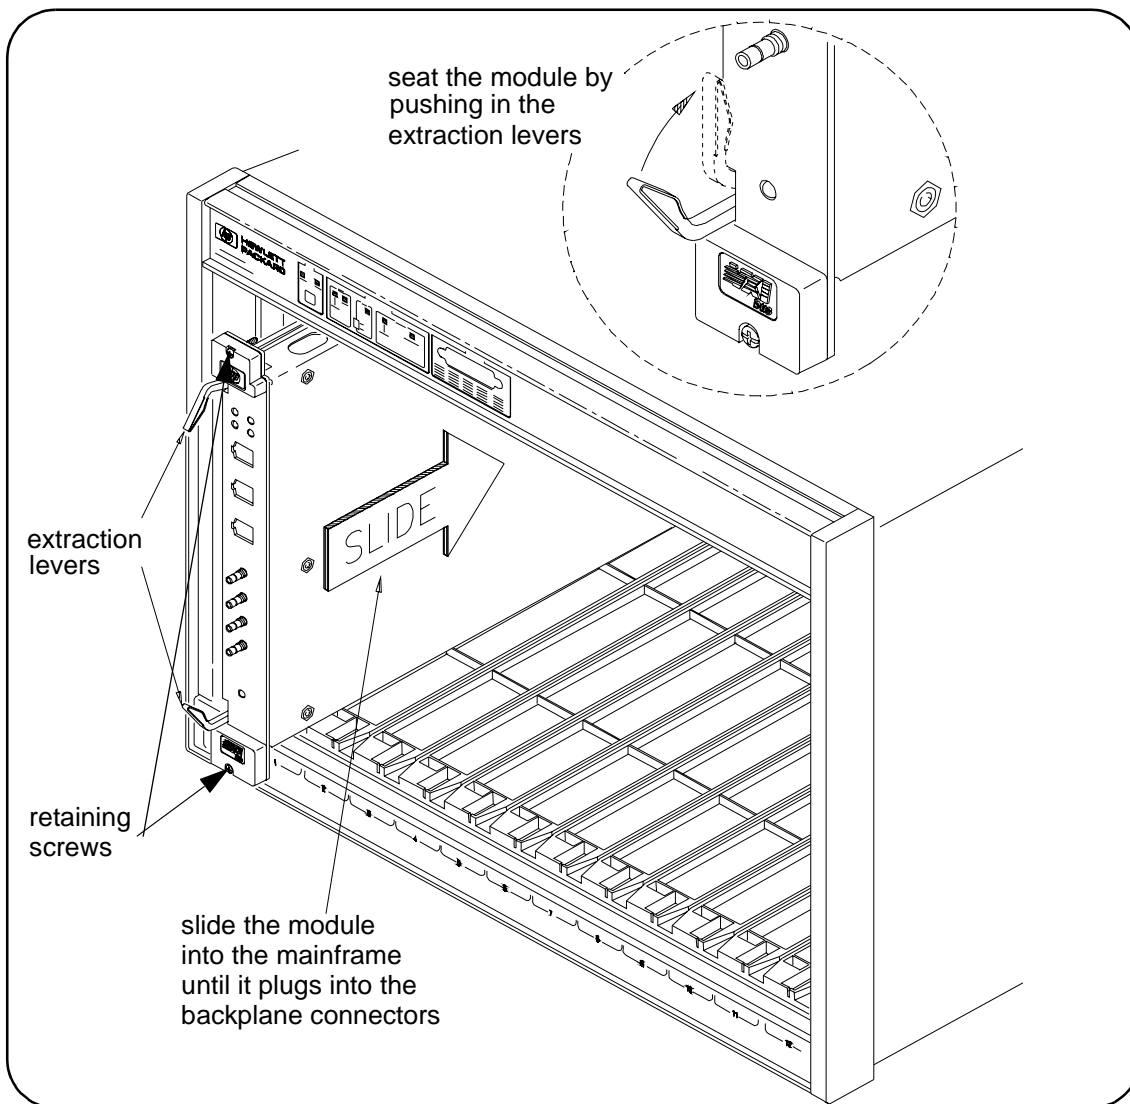

Figure 2-6. Installing the HP E8491A in the VXI Mainframe.
- B. Insert the E8491A into mainframe slot 0 by aligning the module with the guides inside the mainframe (Figure 2-6). Slowly push the module into the slot until it seats in the backplane connectors. It may be necessary to pull out (not remove) the retaining screws in order to seat the device securely in the connectors.